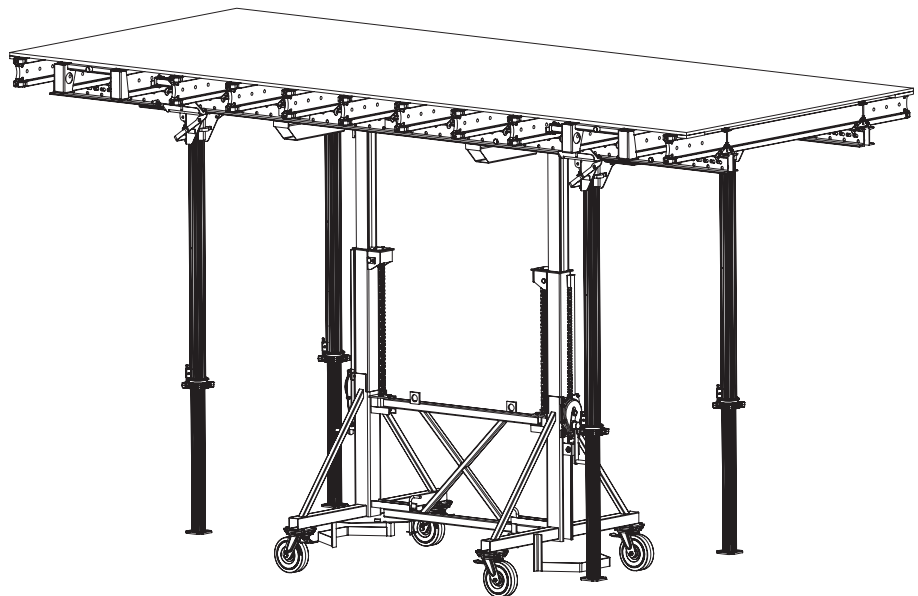

Fig. A9.03
2. Lift and move the slab table by means of prepared moving equipment. (Fig. A9.03)